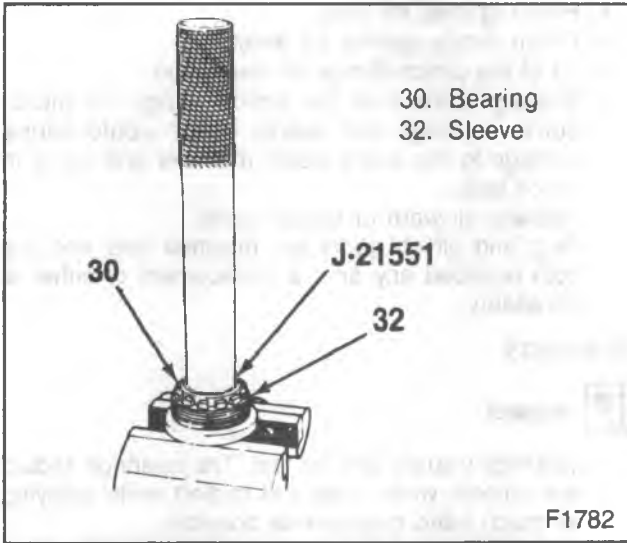

Figure 8—Removing the Sleeve Bearing
13. Bearing (30) from the sleeve (32). Use J 21551 (figure 8).